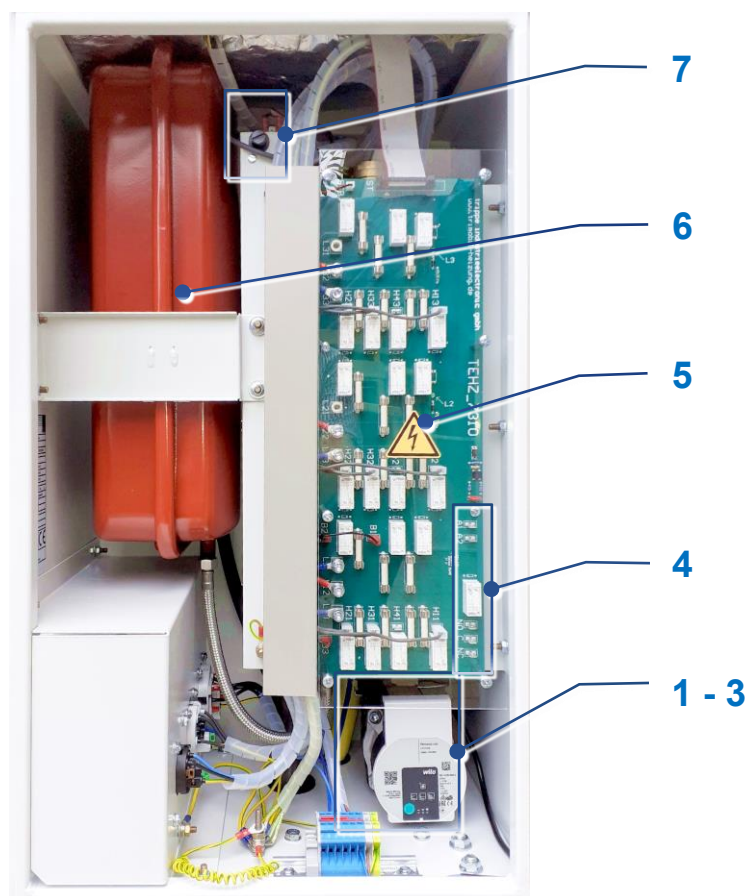
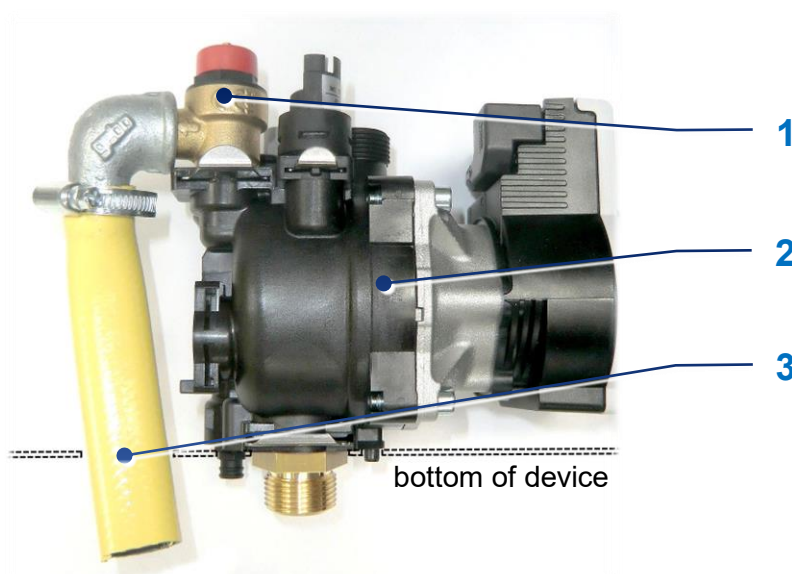

Fig. 2): Interior view of the mobile heating unit (sample)
Fig. 3): Safety valve (pos.1) at the recirculating pump
1 - 3	- Recirculating pump with safety valve and drain hose (see chap. 2.4, Fig. 3)
Note: The figures in brackets (X) relate to the position numbers given in Fig. 2 in chap. 2.3 and Fig. 3 in this chapter.
The protective cover (see Fig. 2 “Interior view”, pos. 5) is located in front of the relay circuit board and keeps the sensitive electronic components protected mechanically.
The membrane expansion vessel (see Fig. 2, pos. 6) offsets pressure fluctuations in the heating system.
The safety temperature limiter (see Fig. 2, pos. 7) switches the heating off when the device reaches a temperature of 95 °C. The mobile electric heating unit cannot resume operation until the temperature has returned to a level within normal range (< 80 °C) and the temperature limiter has been reset.